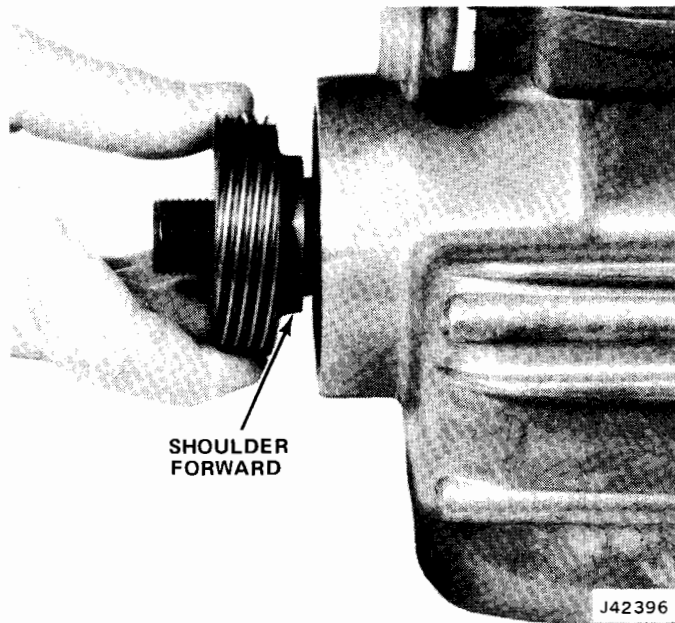

Fig. 8-45 Installing Speedometer Drive Gear
(9) Rotate drive sleeve or pinion cage to be sure drive sprocket thrust washer did not become displaced. Unit should turn easily with no binding.
(10) If not equipped with reduction unit, install power takeoff sealing ring and cover. Tighten attaching screws to 20 foot-pounds torque.
(11) Install speedometer gear on rear output shaft (fig. 8-45).